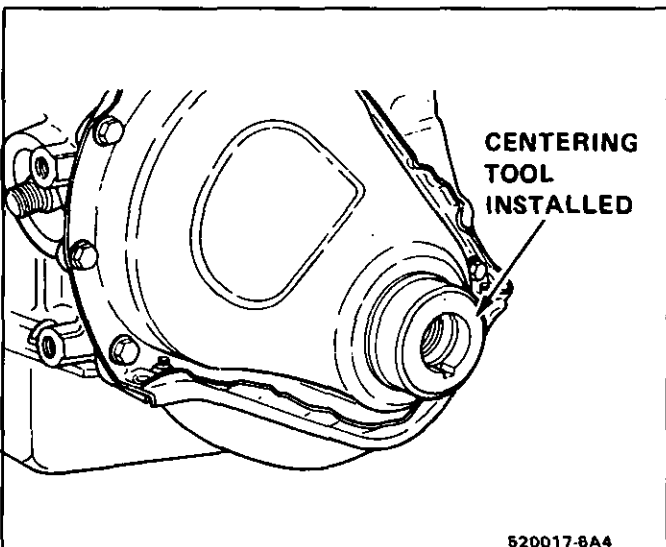

Fig. 809 Front Cover Centering Tool Installed
4. Centering tool J34995 in timing gear cover oil seal (Fig. 809).